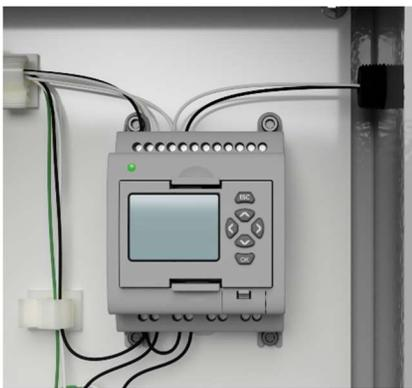

Figure 4
2. Insert your machine output through the available cable gland and connect to the controller at input 00 as shown in *Figure 4*.